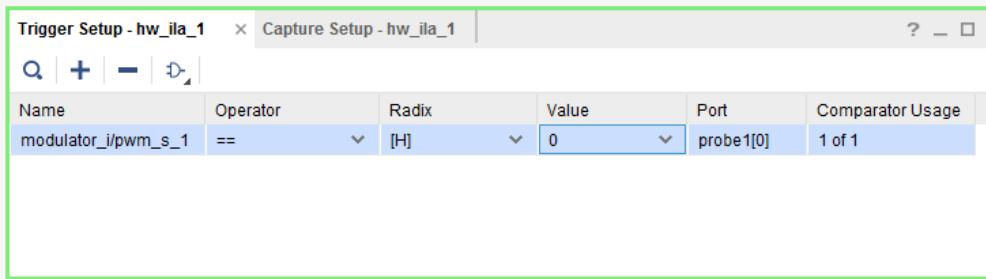

Figure 11.39: Changing the Compare Values in the Trigger Setup window
6. Now, when the ILA debug probe **pwm_s_1** is in the **Trigger Setup** window, we can create trigger conditions and debug probe compare values. In the **Trigger Setup** window, leave **== (equal)** value in the **Operator** cell, **[H] (Hexadecimal)** value in the **Radix** cell and set the **Value** parameter to be **0 (logical zero)**, as it is shown on the Figure 11.39.